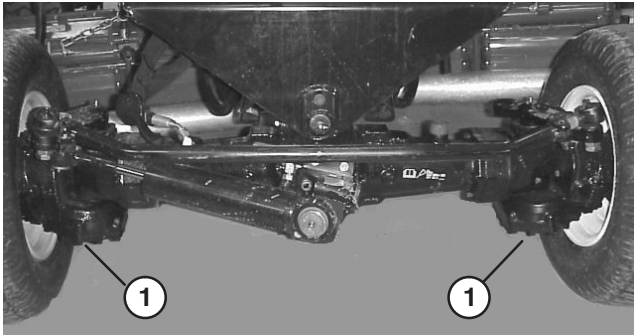

Figure 22
2. Clean area around the drain plugs (Fig. 22).